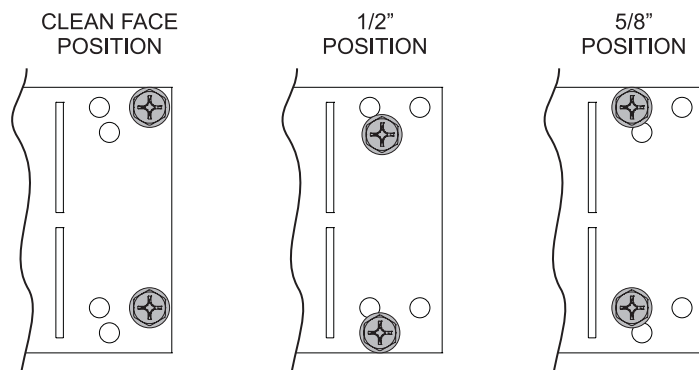

Figure 13
3. Locate the nailing flanges in the installation envelope and attach them to the sides of the fireplace with two #10-32x1/2 hex screws each. The flanges have three positions to accommodate the wall board being installed over the face of the unit (clean face) or flush with the face of the unit with 1/2 in. or 5/8 in. thick wall board. See Figure 13.